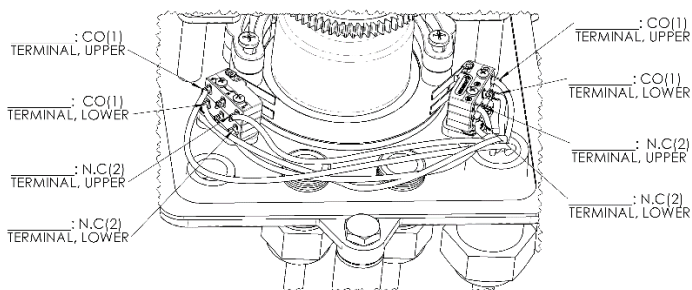

Figure 8: Wiring schematic for customer fill out, four switch module
1. Note connections of all wires going to the old microswitches prior to disconnecting by filling in the colors of wires in Figure 8. On the old microswitch, Kobelt PN 6001-0104, the terminals are labelled 1 and 2, and correspond to terminals 1 and 2 on the new microswitches.
- a. Follow the wiring connections that were noted in step one, Figure 8.
- c. In case of discrepancy between noted wiring and factory wiring, it is recommended to keep wiring as noted in Figure 8 as the wiring may have been altered in the field at original installation. This will ensure the RFU behaves in the same manner as prior to the retrofit.